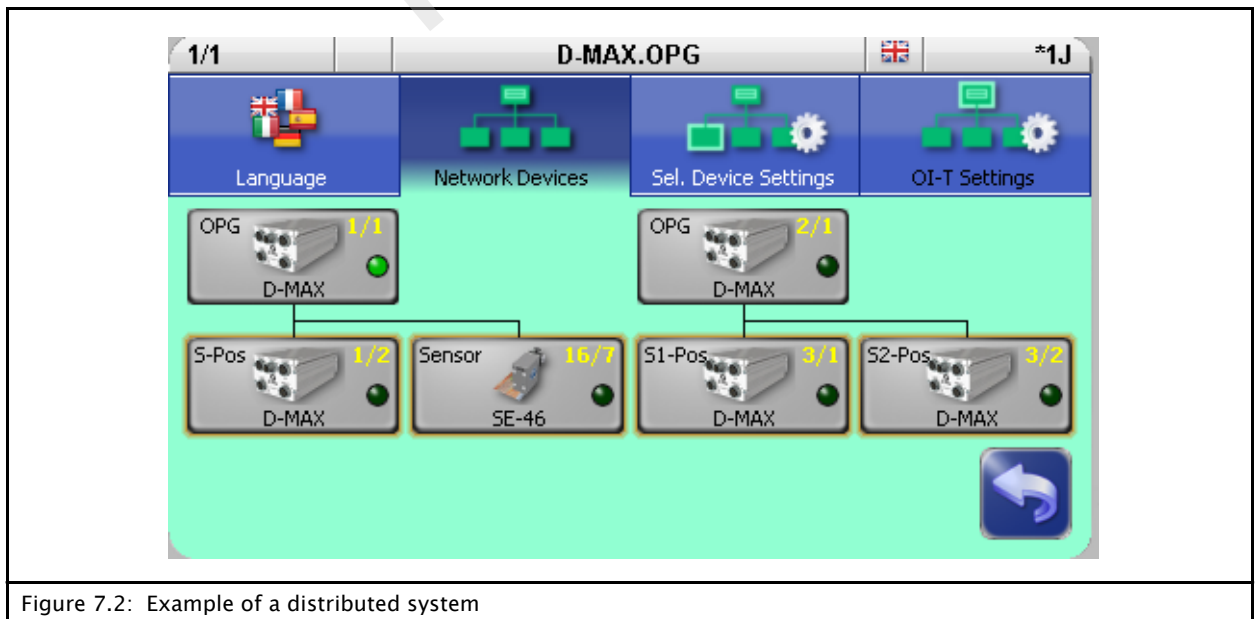

Figure 7.2: Example of a distributed system
To be able to navigate effectively within such a complex network, individual "devices" and the corresponding menu structures are combined to form applications. Thus an application consists of several menu structures in a distributed arrangement (see *Figure 7.2*).
**Example** (*Figure 7.1* and *Figure 7.2*)